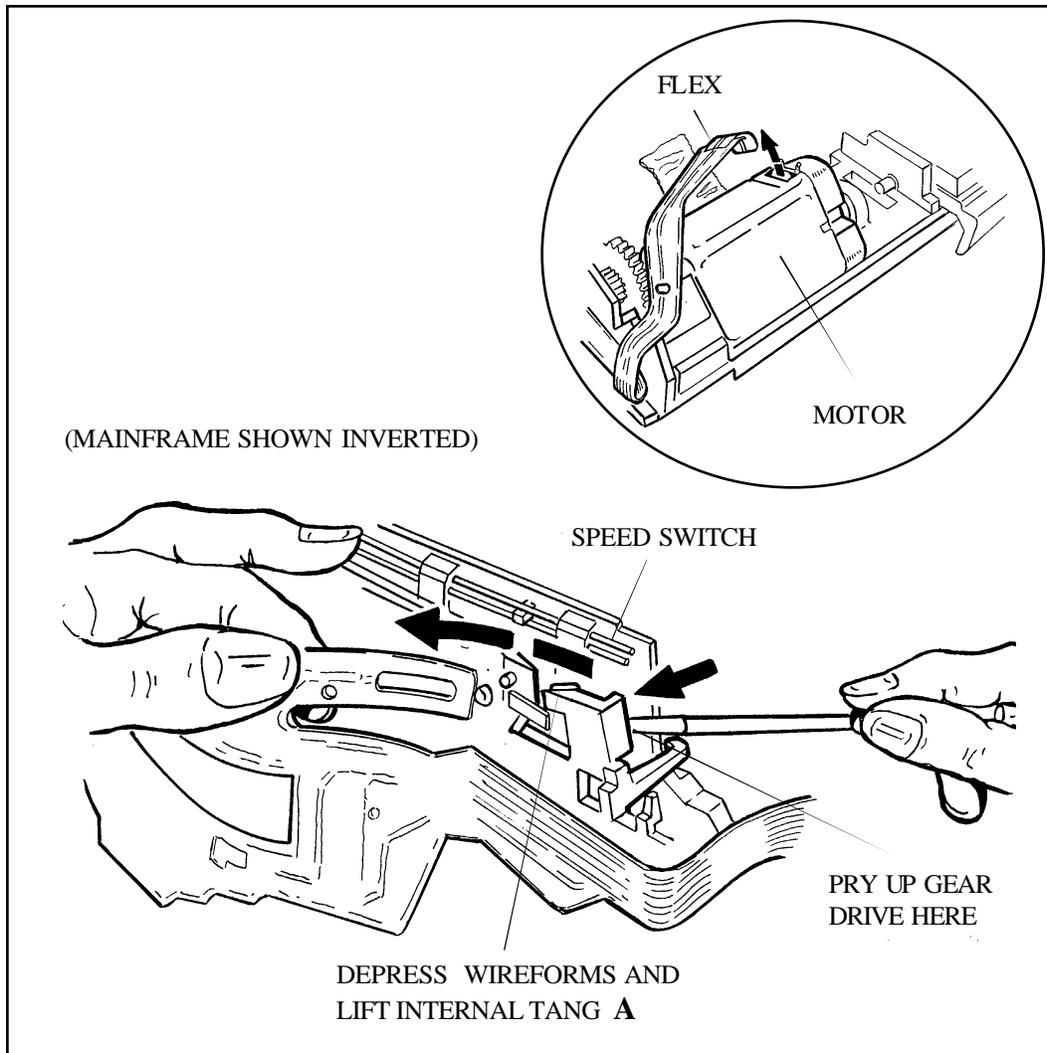

Figure 3-28. Removing Motor Flex from Mainframe and Motor
- b. Remove the Motor Flex, freeing it from the Speed Switch by depressing the Wireforms of the Switch and lifting the internal locking tang **A** out of the slot in the Flex (Figure 3-28). (If the internal locking tang **A** is not lifted, the Flex may be damaged during removal from the Speed Switch.)